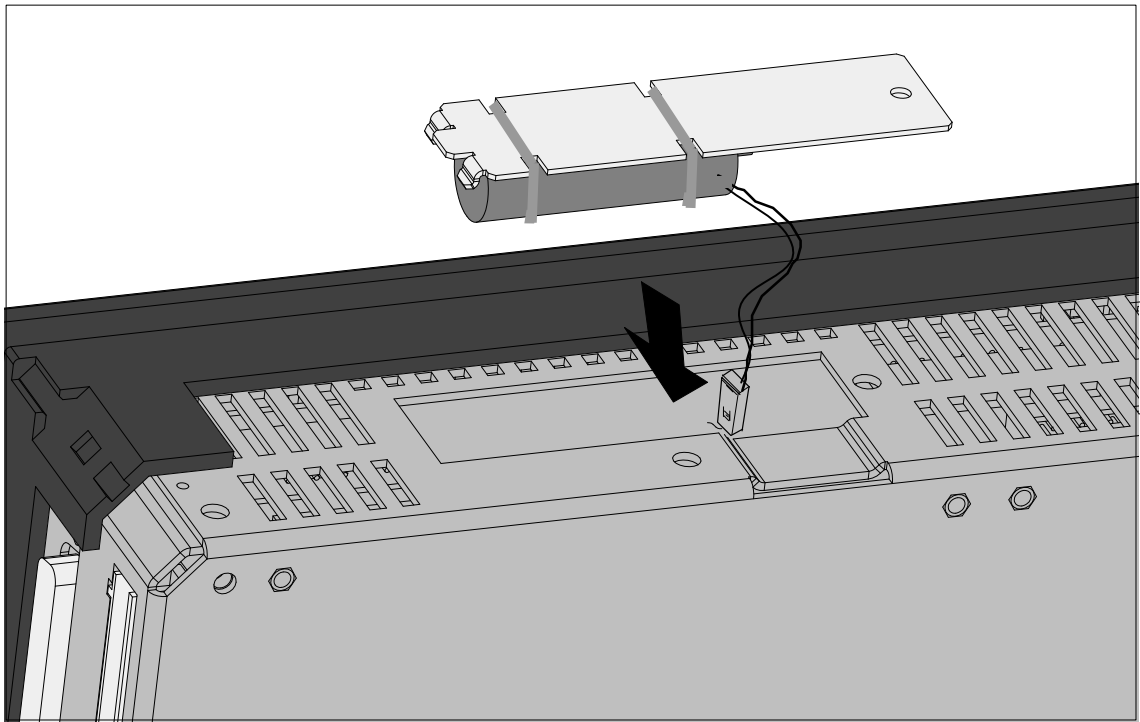

Figure 8-3 Inserting the Back-Up Battery
4.	Loosen the cable binders with which the back-up battery is attached to the cover (see Figure 8-3).
6.	Plug the battery connector of the new back-up battery into the relevant socket in the battery compartment of the C7. The notch on the battery connector must point to the left (see Figure 8-3).